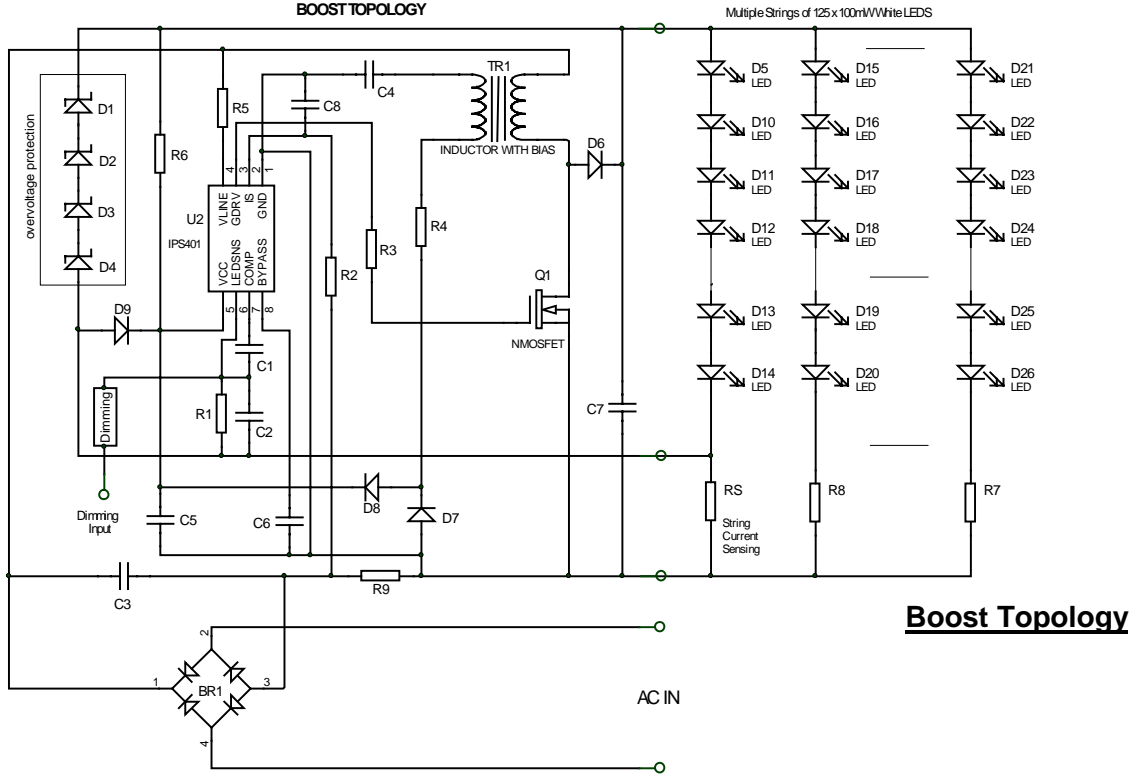

Figure 1
The IPS401 includes a voltage error amplifier between pin 6 and pin 7. Its non-inverting input is connected to an internally trimmed 0.50V reference. Its output connected to pin 7, is internally connected to a V-to-I converter/multiplier. As indicated in the typical application schematic of figure 1, pin 6 and pin 7 are used for the following purposes:
- (c) the loop feedback compensation network R1, C1, C2 (see Fig. 1) provides a suitable network for most applications. More complicated schemes are possible for demanding applications where transient response is paramount.